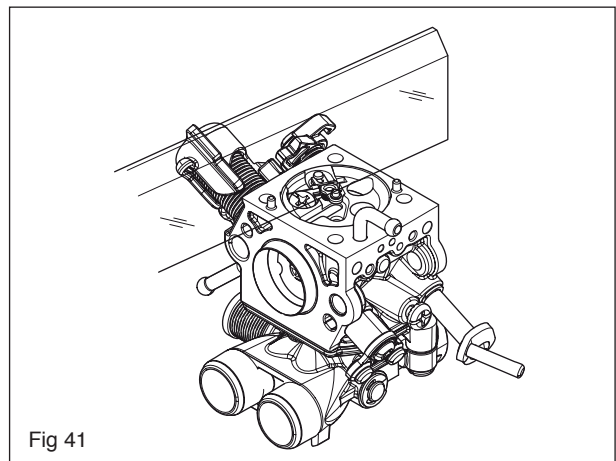

Fig 41
6. Using a ruler or a similar tool, check that the lever is level with the assembly plane on the cover as outlined in figure 41. The lever arm can be bent if necessary.